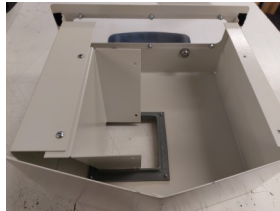

Figure 5
3. Place the larger half of the chute in the drawer (shown in figure 5), then secure it in place using the 2 screws.